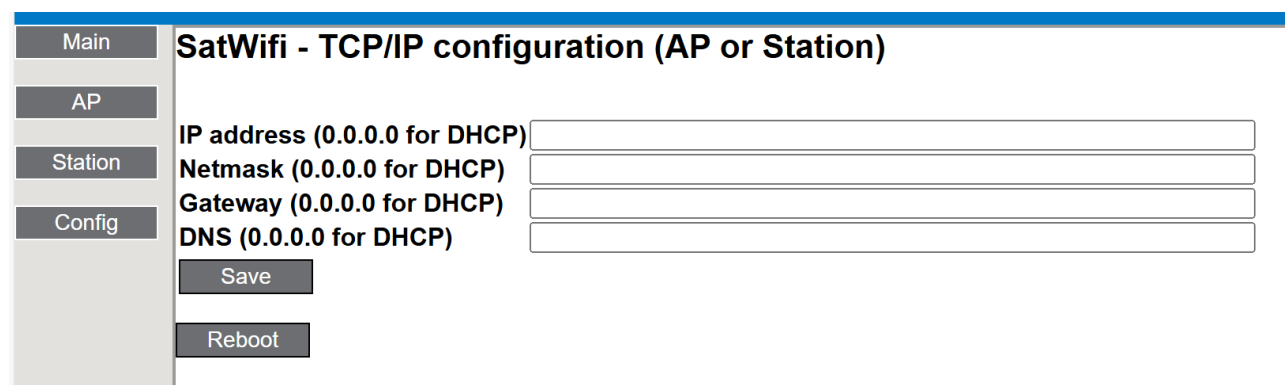

Figure 11 - SAT WIFI-ETHERNET configuration Web Server - TCP/IP Configuration Page
- If the SAT WIFI-ETHERNET is an Access Point, enter the parameters as in Figure 11. In alternative, they may be left blank in no particular setting is required.